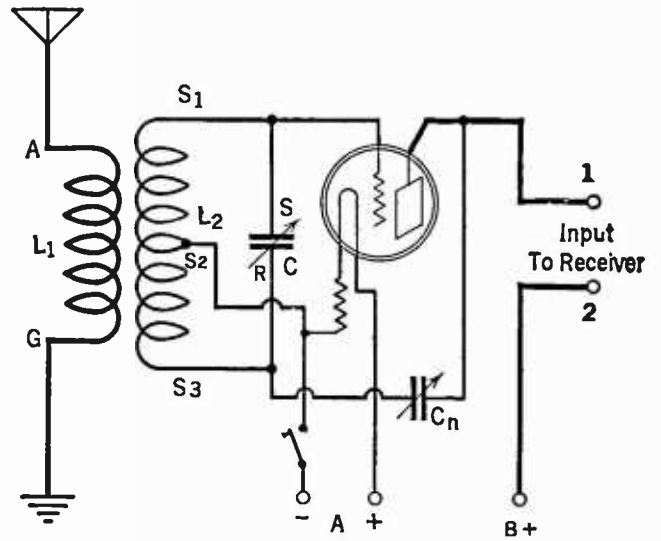
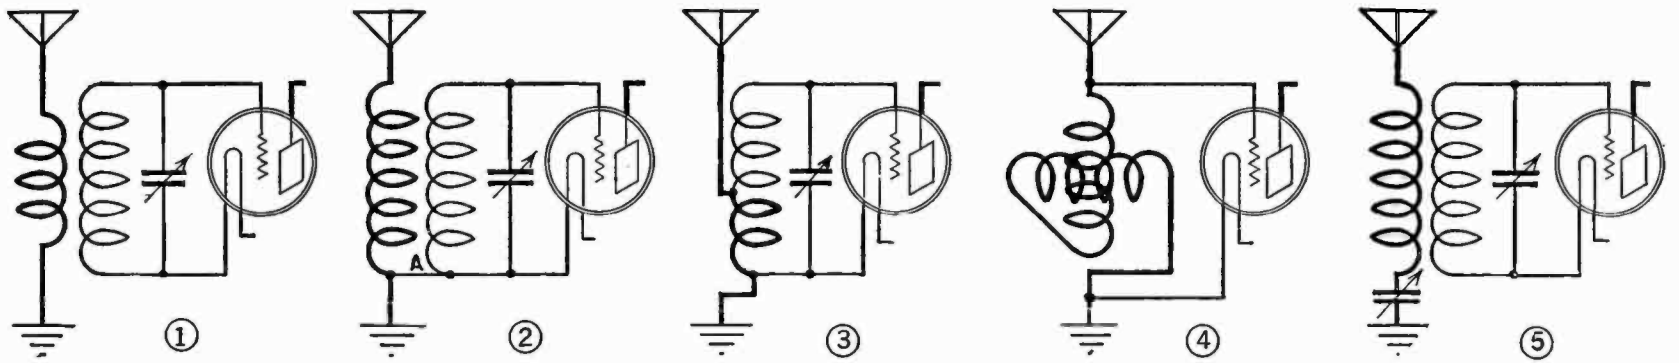
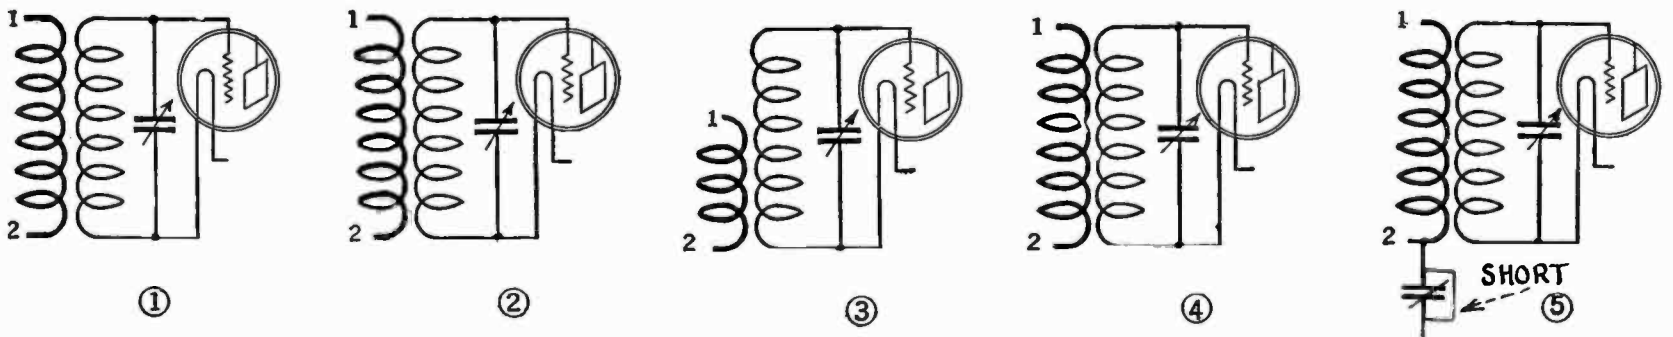

FIG. 7
FIG. 8
FIG. 11
The major reason for using the General Radio instrument in taking the data contained in this article was that it uses a calibrated condenser, which was essential in making these measurements. After the tests with the General Radio and other wave traps mentioned above, a home made trap was tried and results were quite satisfactory in every way. A home made unit, very easy to build, is illustrated in Fig. 8.
A home-made radio-frequency unit adapted for use in this connection is shown in Fig. 7. This design proved to be excellent from the standpoint of adaptability to existing receivers with a minimum number of changes. The completed unit is shown in Figs. 8 and 9. It was constructed in the Laboratory.
One of the diagrams in this Figure is the type of antenna connection used in your receiver. The diagram Fig. 11 shows the adaptation necessary to include an r. f. amplifier-wave trap.
The antenna system of a receiver is usually connected by one of the methods illustrated in Fig. 8. In Fig. 11, we have revised these circuits so as to indicate what changes are necessary in order to attach the radio frequency amplifier. Readers should determine what type of antenna circuit is used in their receiver and then locate it in Fig. 8. The numeral preceding the notes given below refers to Fig. 8 so that the notes concerned with any of the circuits can readily be found.
Refer to Fig. 7 for the schematic diagram of this unit
(4) Practically the only method of adapting the circuit to the amplifier is by removing the variometer and substituting in its place a coil of the same type as in the former circuits. Revised, it appears as in No. 4 Fig. 11.
(5) This circuit is very easily changed over. Connect terminal No. 1 to the antenna terminal on the receiver. Terminal No. 2 should connect to the other end of the antenna coil. An optional method is illustrated in Fig. 11 where the antenna tuning condenser C has been shunted and connection made directly to the ground terminal.
Another photograph of the amplifier illustrated in Fig. 8